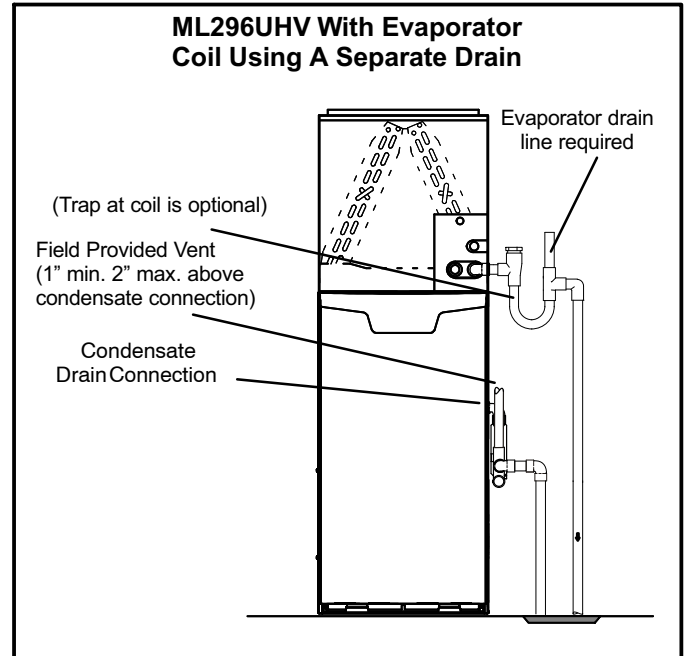
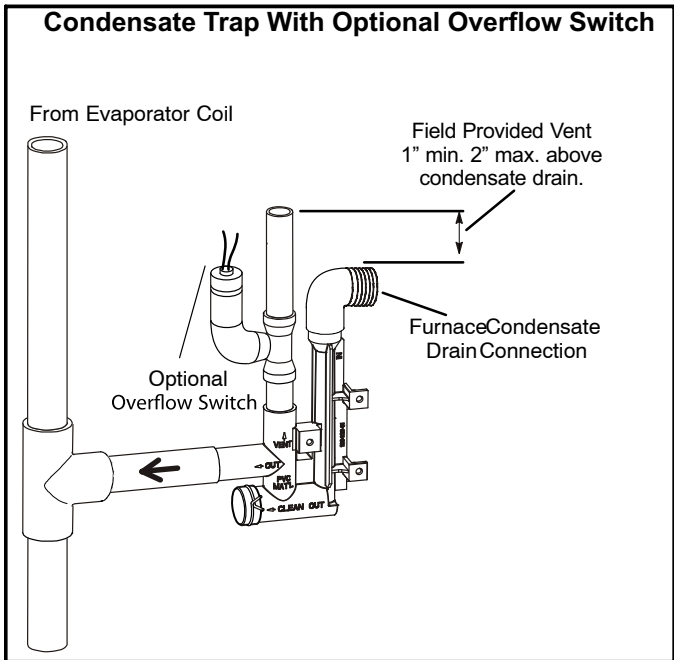

FIGURE 44
FIGURE 46
- 5 - Figures 44 and 45 show the furnace and evaporator coil using a separate drain. If necessary the condensate line from the furnace and evaporator coil can drain together. See figures 46, 47 and 48.